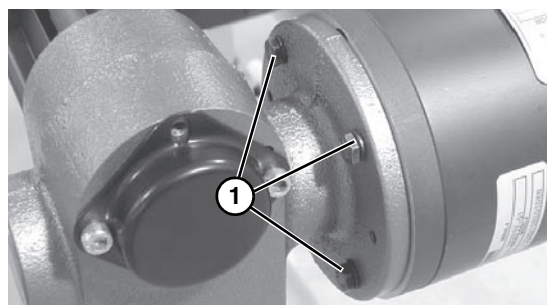

Figure 21
6. Install screws (Figure 21, item 1) and tighten to 65 in-lbs (7.3 N-m).